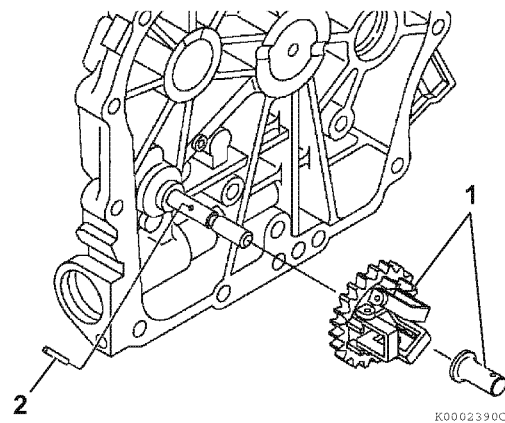

Figure 6-74
6. Use two screwdrivers to pry the oil pump/governor drive gear and spindle assembly (1, **Figure 6-74**) off from the oil pump shaft. Inspect the gear teeth and drive pin groove for wear or damage.
7. Remove the drive pin (2, **Figure 6-74**) from the oil pump shaft.